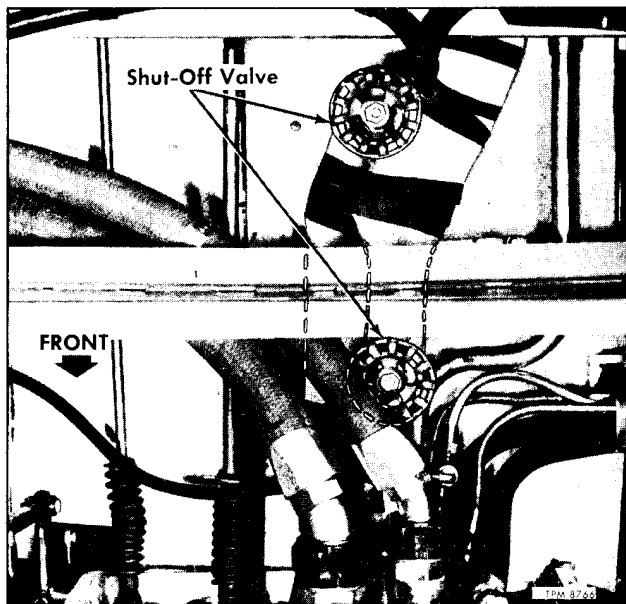

Figure 29—Heating System Water Shut-Off Valves
Heater Line Shut-off Valves - Two gate-type water valves (fig. 29), one installed in supply line and one in return line are accessible from underneath coach, at rear of rear axle. Closing of either valve will prevent heating system from functioning. Use of both valves is required to isolate engine cooling system from heating system in event either is to be drained without affecting the other.
1. If heating system is to be drained without draining the engine cooling system, close two heater line gate valves below floor at rear of rear axle (fig. 29).